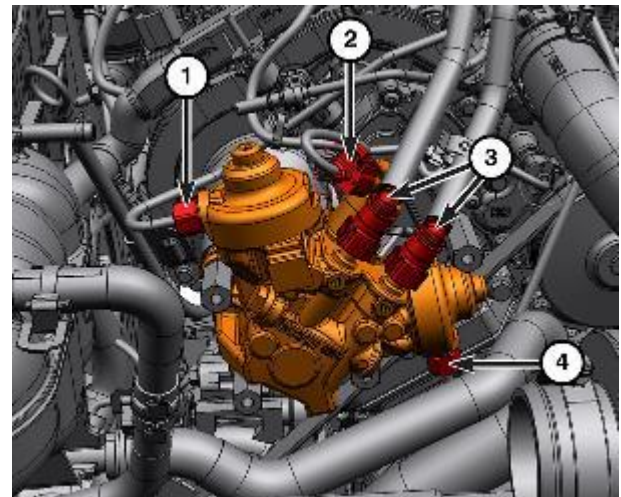

Figure 12 – HPFP Connections
19. Disconnect the low-pressure fuel supply lines (3) (Figure 12).
20. Disconnect the fuel quantity solenoid wire harness connector (2) (Figure 12).